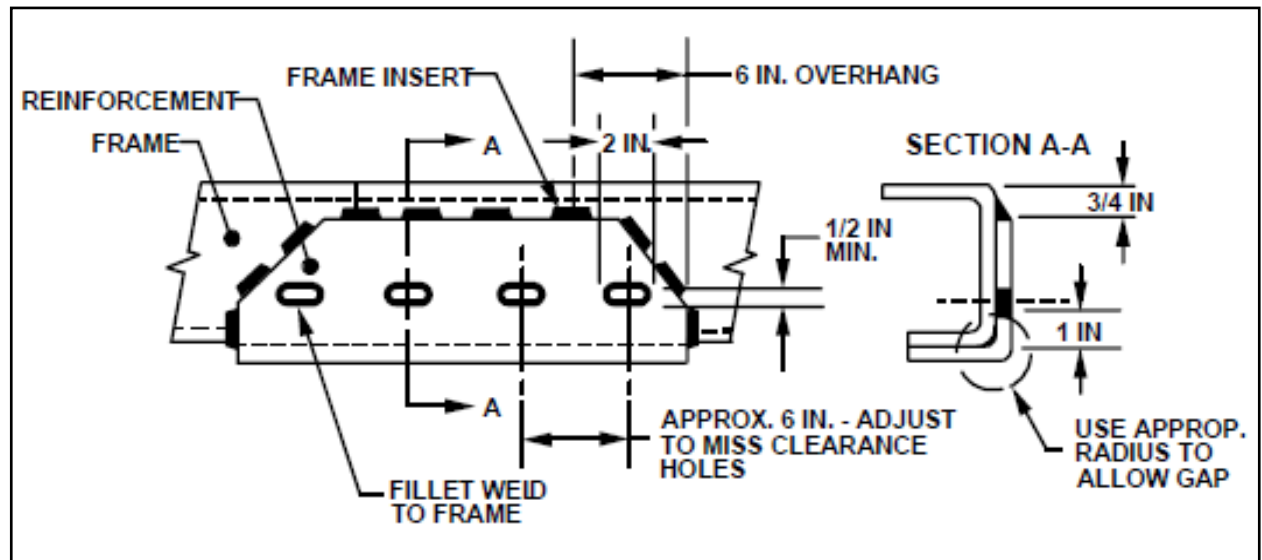
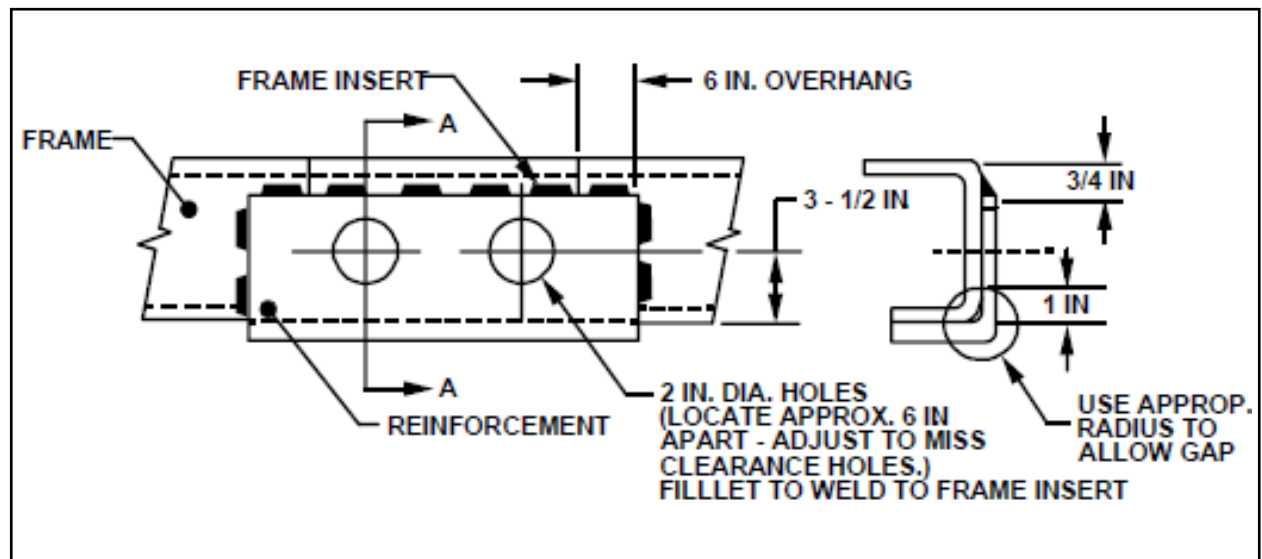

Figure 33 – Preferred Method for Reinforcement and Welding
Figure 34 – Minimum Required Method for Reinforcement and Welding
- The splice location and the length of the insert define the outer reinforcement length with a minimum 15.2 cm (6 inch) overlap on each end. This reinforcement is not to encroach on the rear leaf spring front hanger bracket. Welding within 10.1 cm (4 inches) of this area could shrink the spring bracket rivets, causing a loose joint. The reinforcement should have an L-shaped cross section and be of the same material and thickness as the frame. The reinforcement height must not extend above the tangent of the frame upper flange radius to allow for welding. (See Figures 33 and 34)
- The inside reinforcement bend radius must be larger than the outside radius of the frame to provide a gap at the bend. Refer to Figures 33 and 34 for greater detail. Add clearance holes to the reinforcement for all rivets, fasteners, or retention clips in the frame side member.
frame rail by using a skip weld technique. (A 51 mm [2 inch] weld followed by a 51 mm [2 inch] space continuous along the reinforcement – See Figures 33 and 34.)
- For the final weld operation, fillet weld the reinforcement slots or holes to the frame as shown in Figures 33 and 34. Although perfectly acceptable, it is not necessary to fillet weld the entire circumference of the slots or holes. Performing a fillet weld only on the bottom half (for 180°) will provide sufficient strength.
NOTE: Although Figure 34 ("Minimum Required Method") is acceptable, the method illustrated by Figure 33 ("Preferred Method") is preferred for the reinforcement fabrication and weldment for the following reasons: